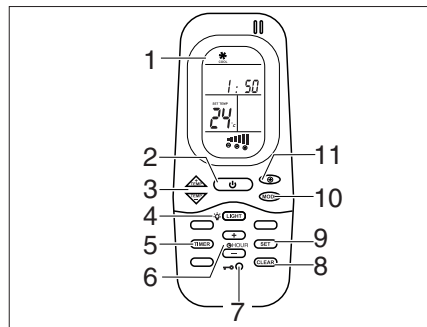
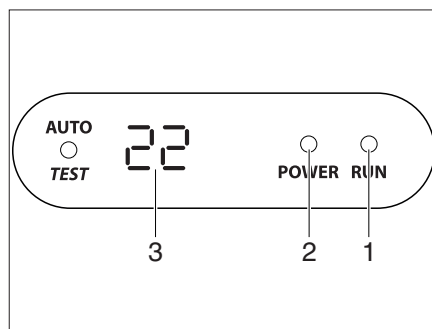

Fig. 118 Remote control
Fig. 119 Display on the diffuser
The air conditioning unit is located on the roof of the vehicle. The remote control (Fig. 118) for the air conditioning unit is located in the kitchen area.
The air conditioning unit is ready to operate. The LED (Fig. 119,2) on the diffuser's display lights up red.
- To switch on, press the on/off switch (Fig. 118,2) on the remote control. The LED (Fig. 119,1) lights up green when the air conditioning unit is in cooling mode. The LED (Fig. 119,1) lights up red when the air conditioning unit is in heating mode.
- Set the desired operating mode using the MODE button (Fig. 118,10).
- If necessary, set the desired fan level by using the button (Fig. 118,11) and the room temperature by using the buttons (Fig. 118,3).
- To switch off, press the On/Off switch (Fig. 118,2) on the remote control again.
- To carry out programming, switch on the air conditioning unit with the On/off switch (Fig. 118,2) on the remote control.
- Press the TIMER button (Fig. 118,5). The ON indicator for the Start time is activated.
- Set the time with the TEMP (+/-) buttons (Fig. 118,3).
- Press the TIMER button (Fig. 118,5) again. The OFF indicator for the Start time is activated.
- Press the TIMER button (Fig. 118,5) again.
- Upon completing the setting, press the SET button (Fig. 118,9).
- Press the CLEAR button (Fig. 118,8) to delete the timer programming.